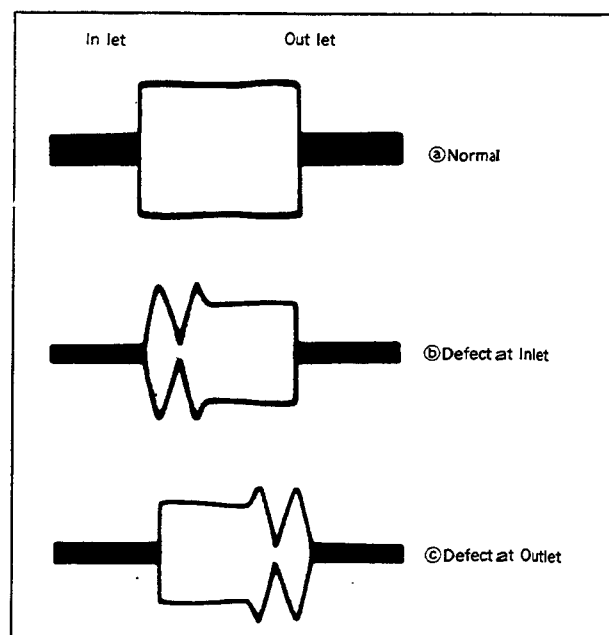

Fig. 35
- 5) Check that a RF waveform is flat at the inlet and outlet of the oscilloscope (Fig. 35 ㉑).
When the RF waveform is not flat at the inlet/outlet ; See Fig. 35 ㉒ and ㉓.